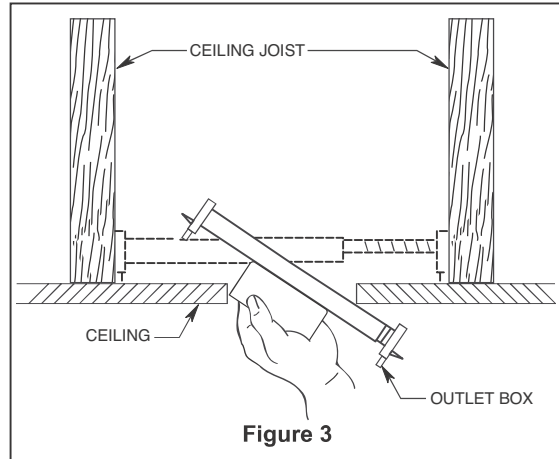
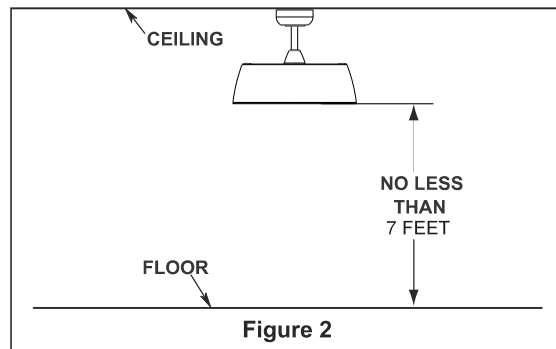

Figure 3
Figure 2
Your new ceiling fan will require a grounded electrical supply line of 120 volts AC, 60 Hz, 15 Amp Circuit. Electrical code requires use of a fan-rated outlet box to support the extra weight and motion associated with a ceiling fan. A fan-rated box will be labeled as such and typically supports up to a 70lbs ceiling fan. Fan-Rated Outlet Boxes vary in ratings and design. Ensure the ratings of your ceiling fan outlet box meet the requirements for the ceiling fan being installed. Figure 1, Figure 2 and Figure 3 depicts different structural configurations that may be used for mounting the outlet box.
Deep-profile use (Figure 2)
Brace Use (Figure 3):
- ☐ Remove the hairpin clip and clevis pin from the bottom of the downrod. Keep the pin and clip for reinstallation in Step 4. (Figure 2)
ceiling fan. (Figure 2)
- 1. Slide the receiver into the hanger bracket with the flat side up towards the ceiling, as shown in figure 2.
- 2. Use the twist - lock mechanism to secure the screw cover in place. (See Figure 2)
- ☐ Restore electrical power to the outlet box by turning the electricity on at the main fuse box. (Figure 2)